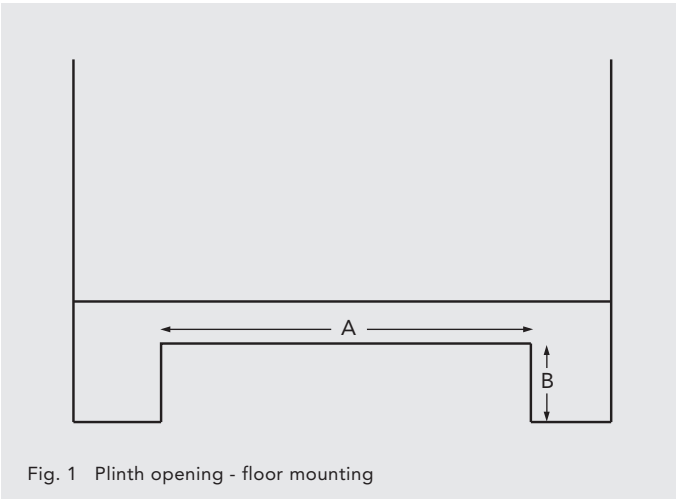

Fig. 1 Plinth opening - floor mounting
- Decide the position of the WHISPA III®, mark out and cut the plinth to the dimensions of Fig. 1 (floor mounting).